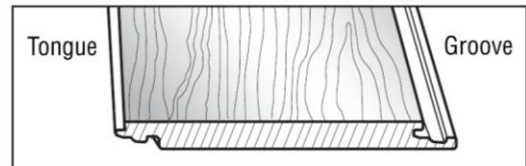

Fig. 8
2. **Lay the first full piece with the small, tongue side facing the wall (Fig. 8).**